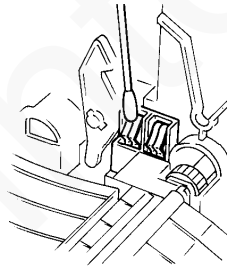

Figure 9. Rear HV Connector
- b. Inspect or clean the contacts on the rear HV connector using a cotton swab (Figure 9).